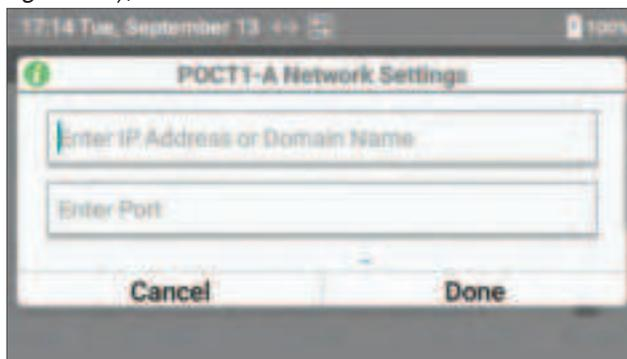

Figure 31: POCT1-A Network Settings
- 3 In the dialog box (*Figure 31*), enter the **IP Address** and the **Port**.